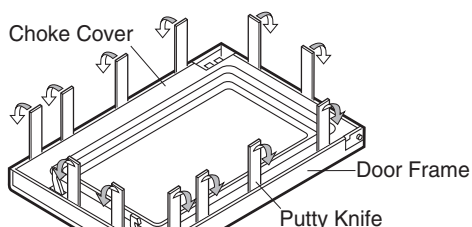

Figure C-4. Door Disassembly
- Insert a putty knife (thickness of about 0.5mm) into the gap between the choke cover and door frame as shown in Figure C-4 to free engaging parts.
- Pry the choke cover by inserting a putty knife as shown Figure C-4.
- Release two (2) pins of door panel from two (2) holes of upper and lower oven hinges by lifting up.